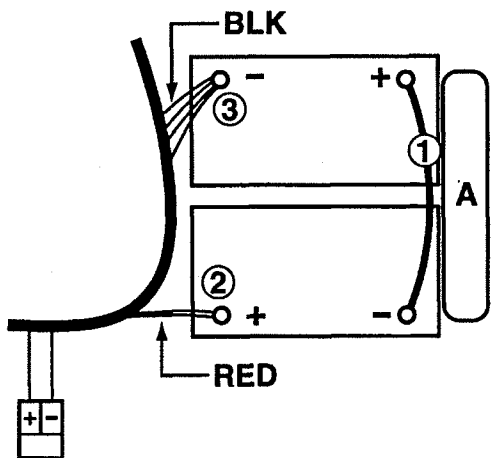

FIG. 3
3. Carefully install batteries into compartment and arrange battery posts as shown. (Figure 3)
- Connect cables to battery posts in numerical order as labeled (RED TO POSITIVE & BLACK TO NEGATIVE). (Figure 3)